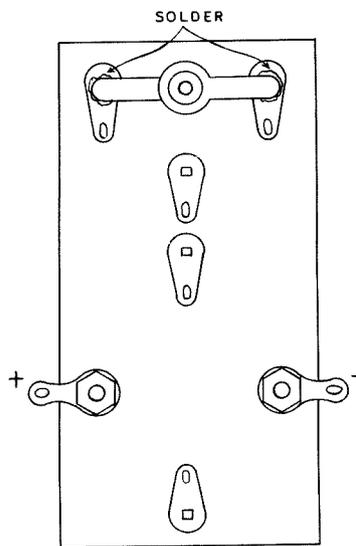

Figure 7
- (✓) Solder the pilot light socket to the terminals as shown in Figure 7 (S).